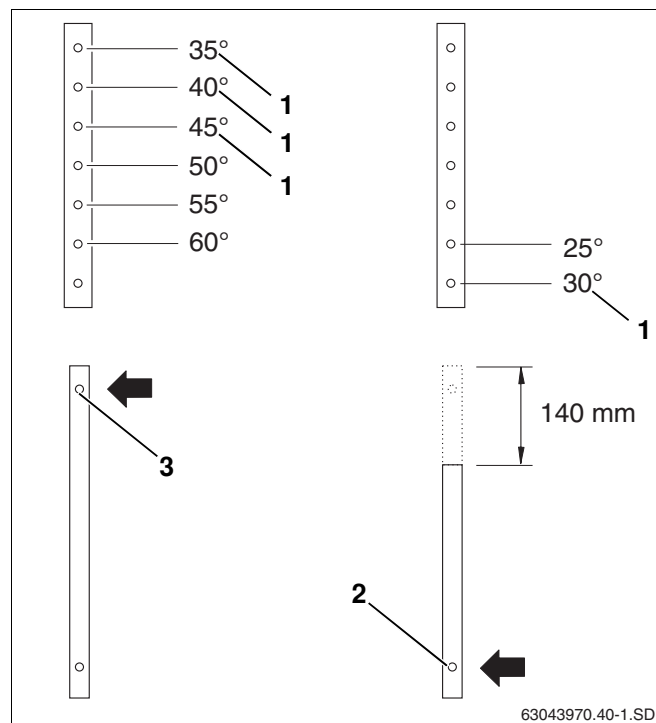

Fig. 13 Adjusting angle of inclination for landscape collectors
- Select holes on the upper and lower telescopic rails as shown in Fig. 12 and Fig. 13.
For landscape installation of a collector with an angle of inclination of 35° to 60°, use the uppermost hole on the lower telescopic rail (Fig. 13, **Item 3**).
For an angle of inclination of 25° and 30°, you must shorten the top of the lower rail by 140 mm and use the lower hole (Fig. 13, **Item 2**).
- For wall-mounted installation, use only the positions for the collector angles of inclination 30°, 35°, 40° and 45° (Fig. 13, **Item 1**).